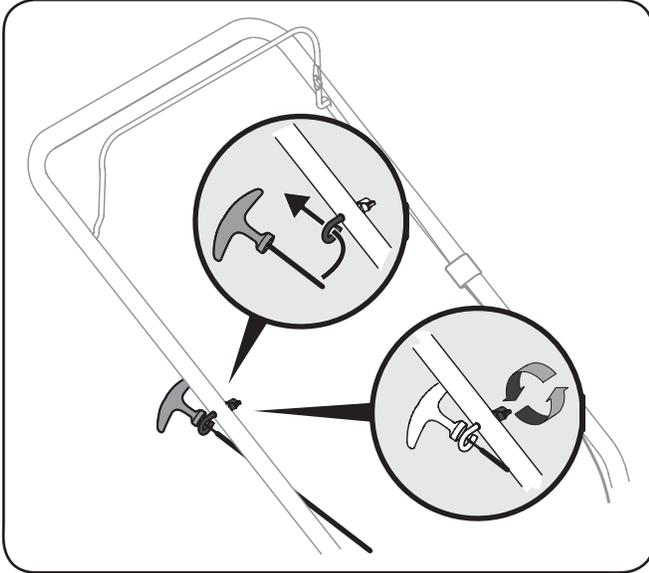

Figure 3-5
3. Loop the rope through the eye bolt. See Figure 3-5.